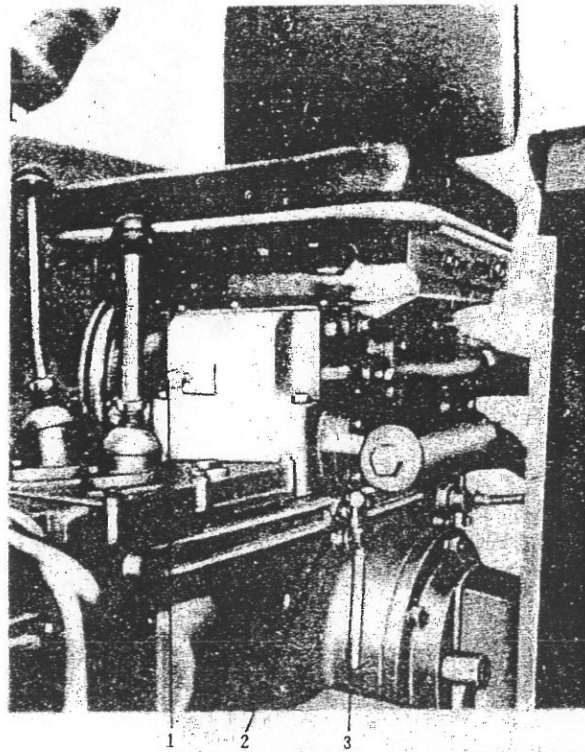

Fig. 2-7
23) Shut-off valve 2 (Fig. 2-7)
24) PTO control lever 3 (Fig. 2-7)
25) Implement lowering speed control valve 1 (Fig. 2-7)